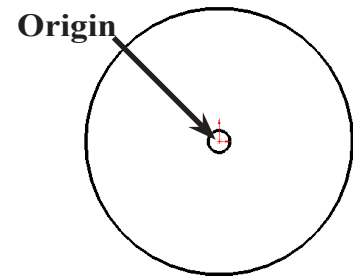

Fig. 2
Step 5. Draw **two circles** starting at the Origin , **Fig. 2**.